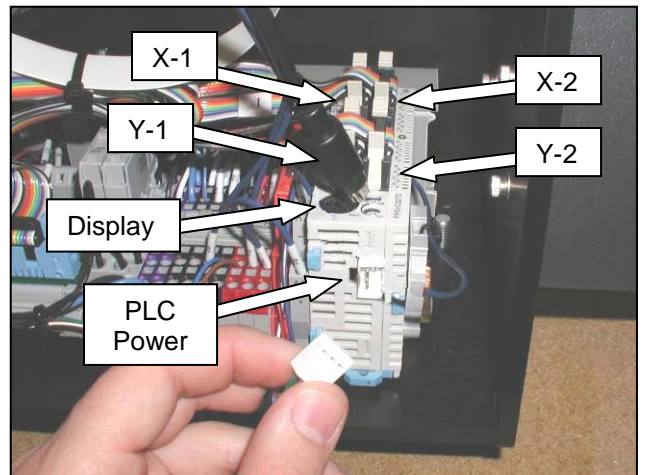

Figure 3-74 PLC Connections
2. Remove all connections from the Aromat PLC. There are six connections: Power, Display and four ribbon cables. Note where the ribbon cables are connected to the PLC (Figure 3-74).
6. Reconnect all wires (Figure 3-74).